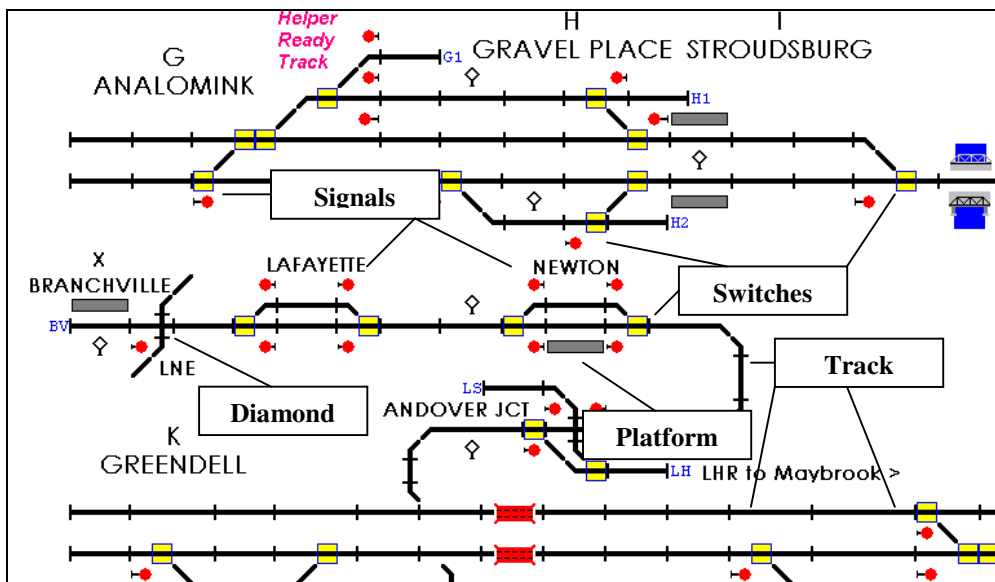

Figure 3 - Track Symbols
The track diagram has a number of symbols to represent tracks, switches, diamonds, signals, trains, etc. Many of these symbols are shown in Figure 3.
- ◆ Press a key that represents a station call up character. Each station name on the screen has a station call up character assigned. These call up characters are displayed above the station names. In Figure 3 the "Analomink" station is assigned a call up character of "G". If, for example, you press the "G" key the screen will scroll to position the "Analomink" station as close to the center of the screen as possible.